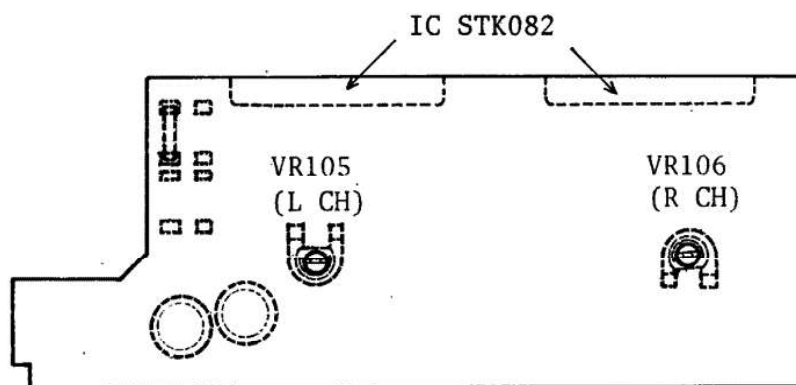
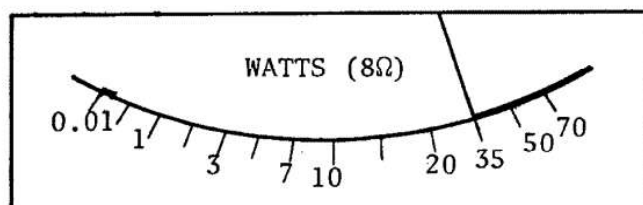

Fig. 7 Adjustment Points.
Fig. 8 Level Meter.
4. Now, adjust VR105 (LEFT) and VR106 (RIGHT) on the Pre/Main Amplifier P.C board (see Fig 7) until the POWER LEVEL meter deflects to the mark '35' (see Fig. 8).